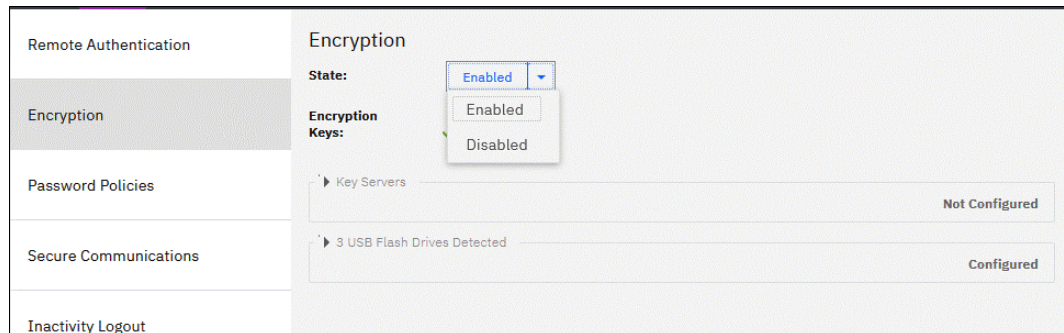

Figure 12-74 Disabling encryption on a system with both providers
1. Select **Settings** → **Security** → **Encryption**, and click **Enabled**. If no encrypted objects exist, a menu is displayed. Click **Disabled** to disable encryption on the system. Figure 12-74 shows an example for a system with both encryption key providers configured.